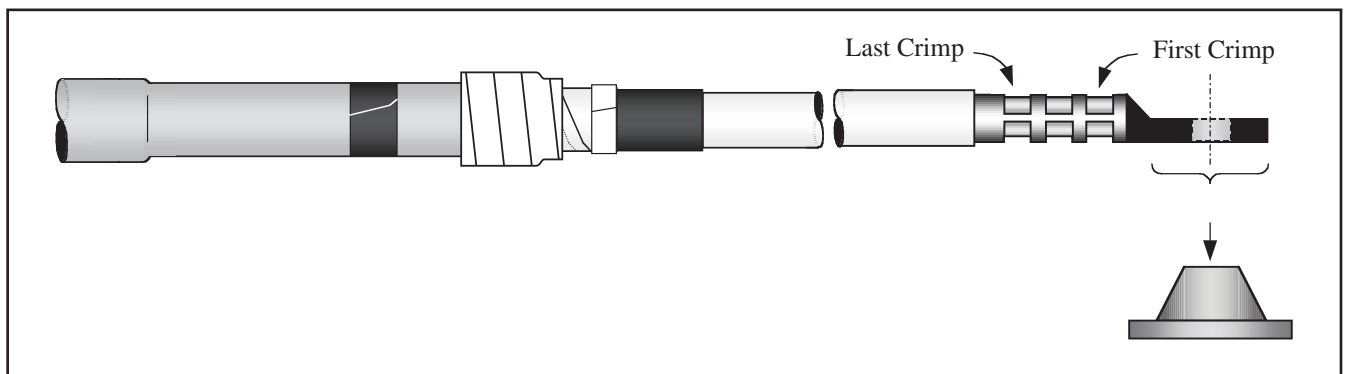

Figure 13
- (b.) Ensure that each lug face is parallel to equipment bushing or lug connection interface (Figure 13).
- (c.) Crimp terminal lug according to manufacturer recommendations. Start at the upper end as shown (Figure 13). Remove all traces of oxide inhibitor that may have come out of lug barrel during crimping.